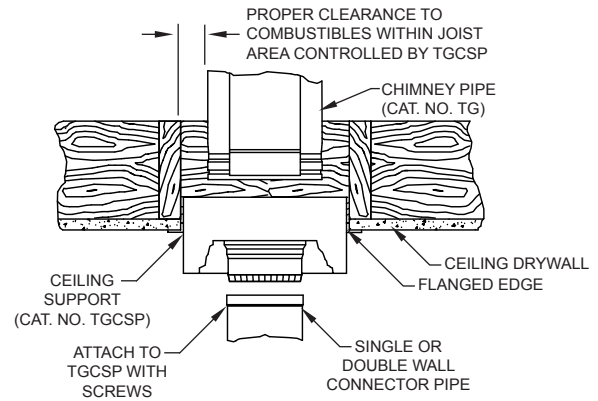
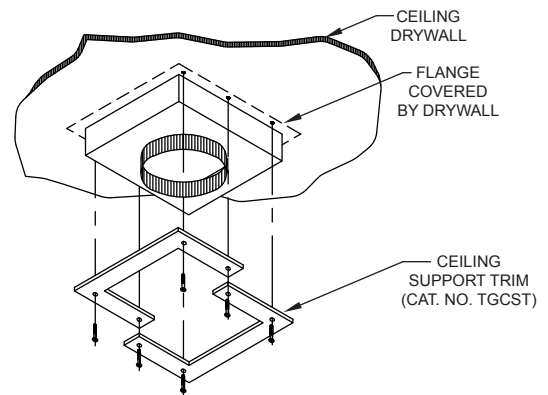

FIG. 2
FIG. 3
3. As shown in FIG. 2, insert the Ceiling Support (TGCSP) from below until the flanged edges are firmly against the ceiling drywall. Secure into framing with eight (8) 8-penny nails inserted through the sides of the ceiling support. If the TGCSP was installed during construction and drywall now covers the flanged edges, install Metal-Fab's ceiling support trim kit (TGCST), as shown in FIG. 3.
4. Single wall or double wall connector pipe may now be installed between the appliance and the ceiling support. (See FIG 2.)